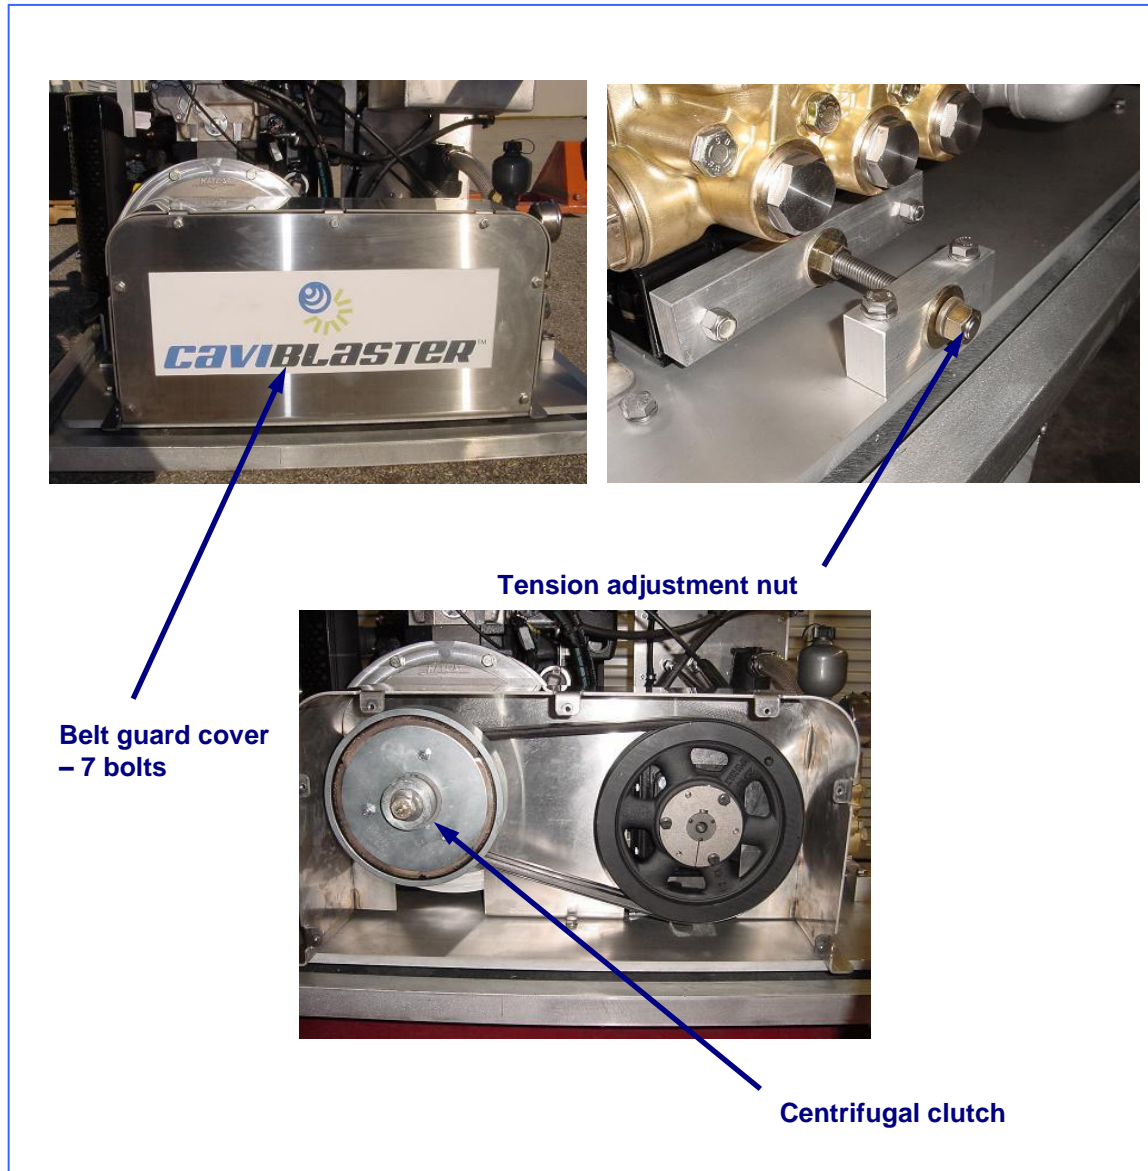

Figure 6.2 – Inspection / Belt tension.
1. Remove the belt cover supported by 7 bolts (See Figure 6.2).
2. If belts need tightening, use the tightening nut to adjust (See Figure 6.2).